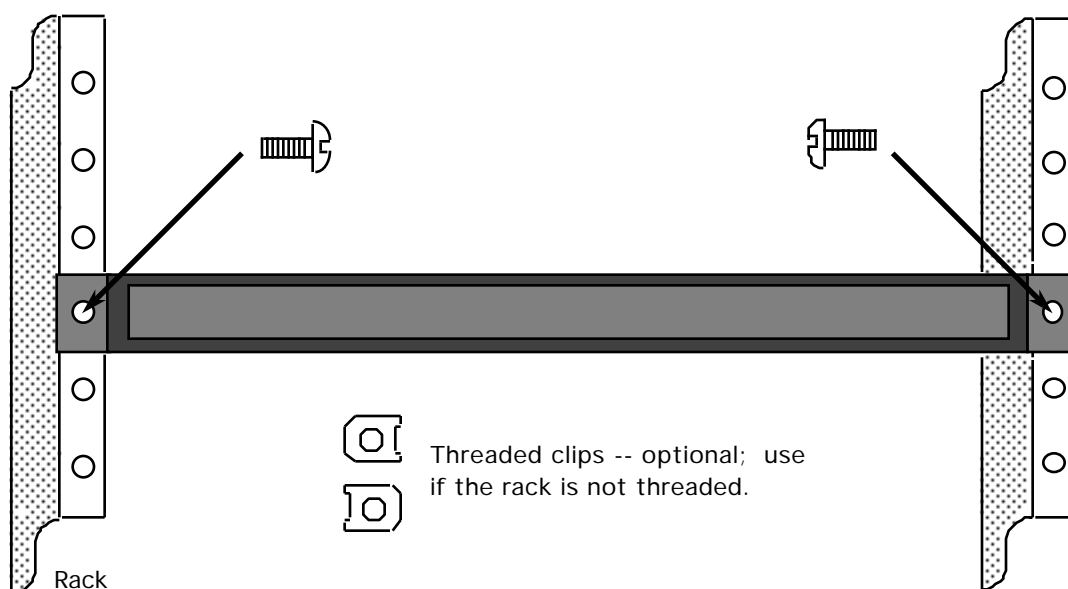

Figure 2-1. Mounting the MAXserver 6025 in a Rack
2. Secure the MAXserver 6025 to the mounting rack using the supplied bolts, as shown in Figure 2-1. If the rack is not threaded, use the threaded clips supplied with the server.